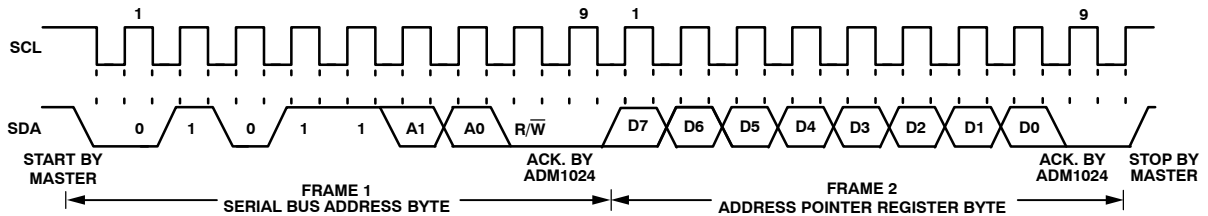

Figure 11. Writing to the Address Pointer Register Only
1. If the ADM1024's Address Pointer Register value is unknown or not the desired value, it is first necessary to set it to the correct value before data can be read from the desired data register. This is done by performing a write to the ADM1024 as before, but only the data byte containing the register address is sent, as data is not to be written to the register. This is shown in Figure 11.
from the corresponding data register without first writing to the Address Pointer Register, so Figure 11 can be omitted.